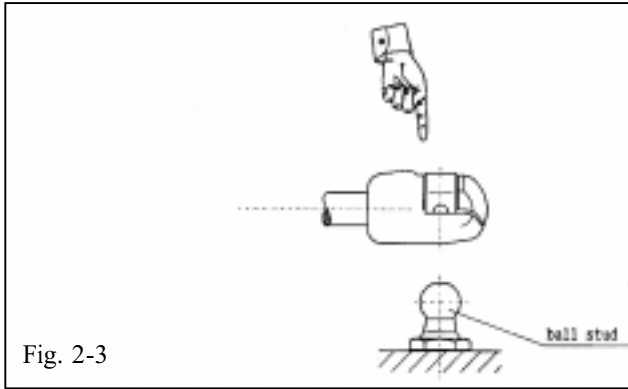

Fig. 2-3
- (c) Remove and replace the LH and RH gas filled lift struts. When removing, start with the lift gate end. When installing the new struts, start with the lower end and position the ball socket onto the ball stud. Insert manually, so that the ball stud snaps in safety clip securely. Finish by snapping the upper end in place. (Fig. 2-3)